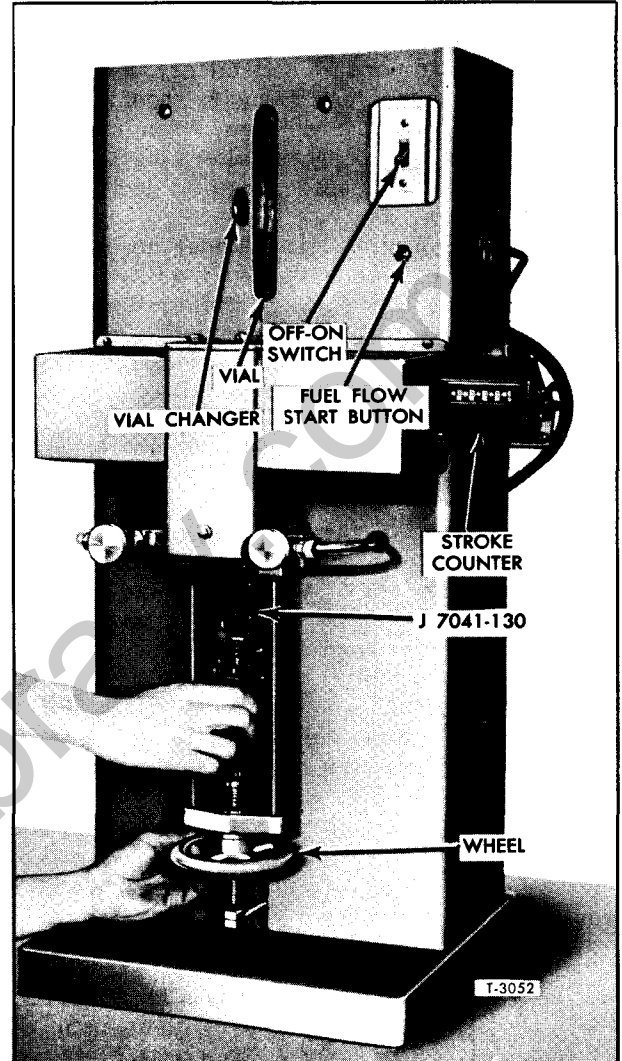

Figure 20—Placing Injector in Comparator
1. Place the injector in the comparator, as shown in figure 20. Then, turn the wheel to clamp the injector and adapter in position.
3. Start the comparator by turning on the switch shown in figure 20.